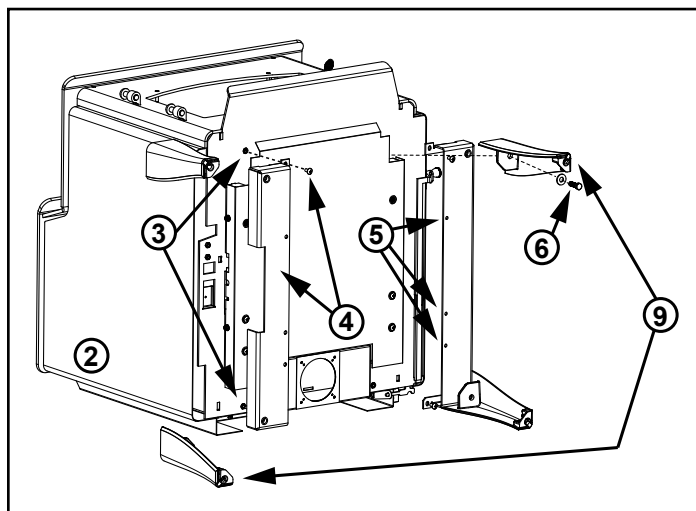

Figure 22.1
3. Remove four screws from bottom of appliance (Figure 22.1).
NOTE: There is a right and a left of the leg brackets (Figure 22.1).
5. Install six screws to the bottom of the leg brackets (Figure 22.1).
NOTE: Legs with leveling bolts need to be on opposite sides of the appliance - one in the front and one in the back (Figure 22.1)